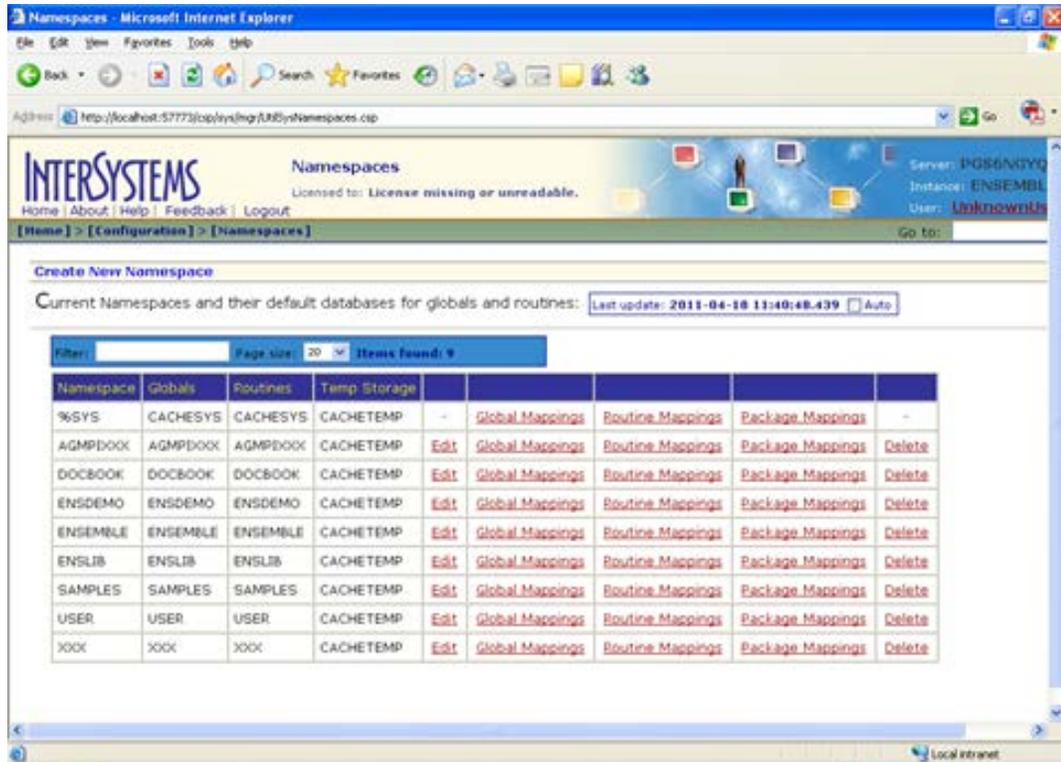

Figure 4-12: Select **Global Mappings**
1. On the **Namespaces** page, click **Global Mappings** in the AGMPIxxx namespace row to display the **Global Mappings** page, as shown in Figure 4-12.